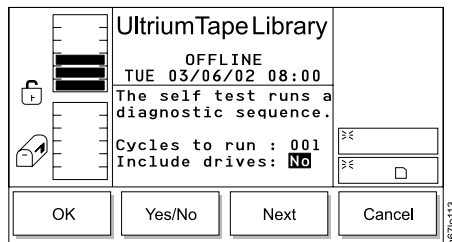

Figure 333. Include Drives Dialog
7. To include or exclude drives in the self test, press the button below the **Next** softkey until the selection cursor highlights the Include drives field. The screen refreshes and the Include Drives Dialog displays (see Figure 333). Press the button below the **Yes/No** softkey until Yes (include drives) or No (exclude drives) displays.